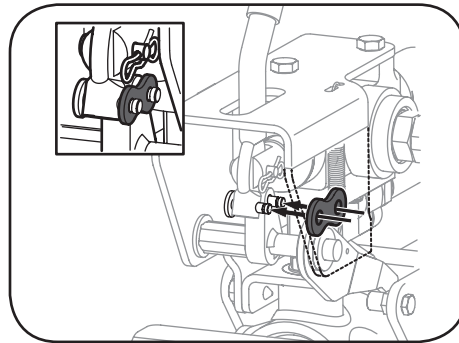

Figure 3-4
5. Install the link plate to the handle link. See Figure 3-4.